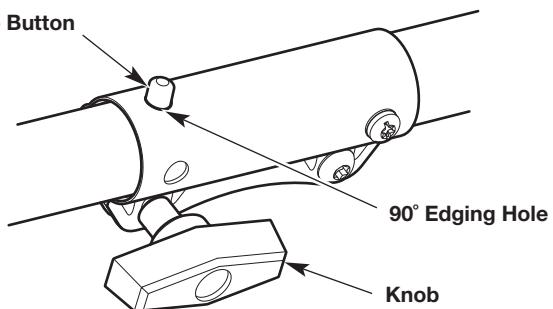

Fig. 26
1. Turn the knob counterclockwise to loosen the coupler (Fig. 26).
2. Press and hold the release button (Fig. 26).
3. Rotate the attachment until the release button snaps firmly into the 90° edging hole (Fig. 26).
4. Turn the knob clockwise to tighten the coupler (Fig. 26).